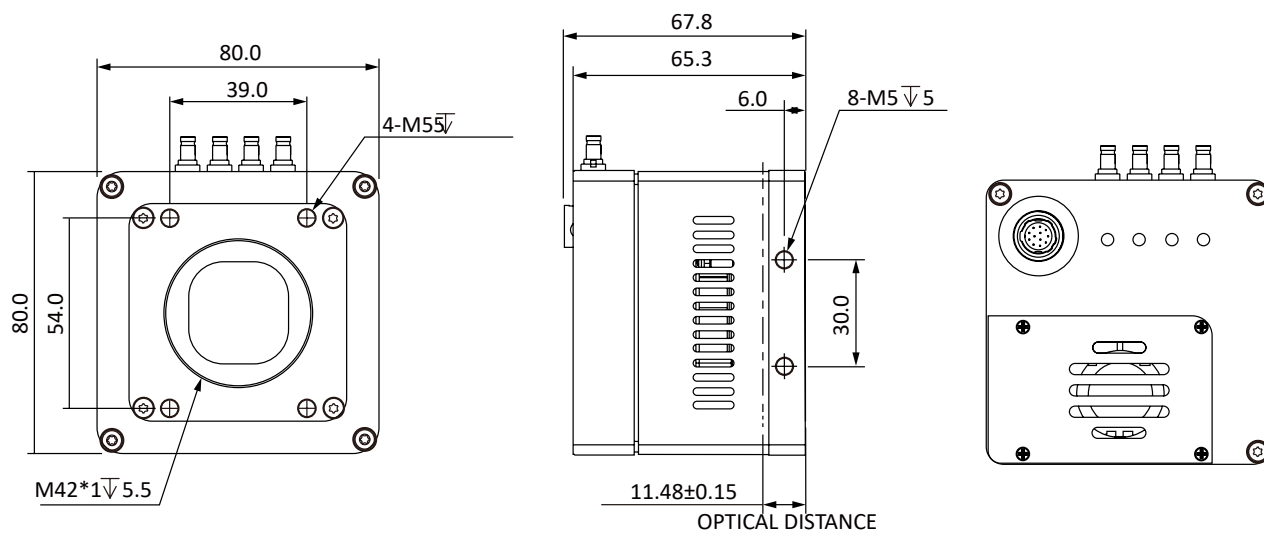

Fig. 1-5: Mechanical Dimensions (in mm) for Cameras with 80 * 80 * 65.3mm housing (M42 interface).
- Fig. 1-5: Mechanical Dimensions (in mm) for Cameras with $80 \times 80 \times 65.3$ mm housing (M42 interface).